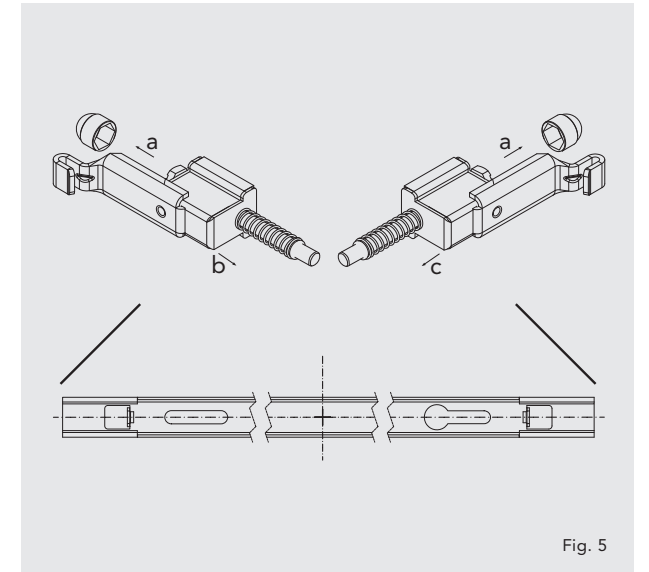

Fig. 5
- Attach the top bracket brace side fixings as per Fig. 5. The side fixings secure the radiator to the brace by the seam.